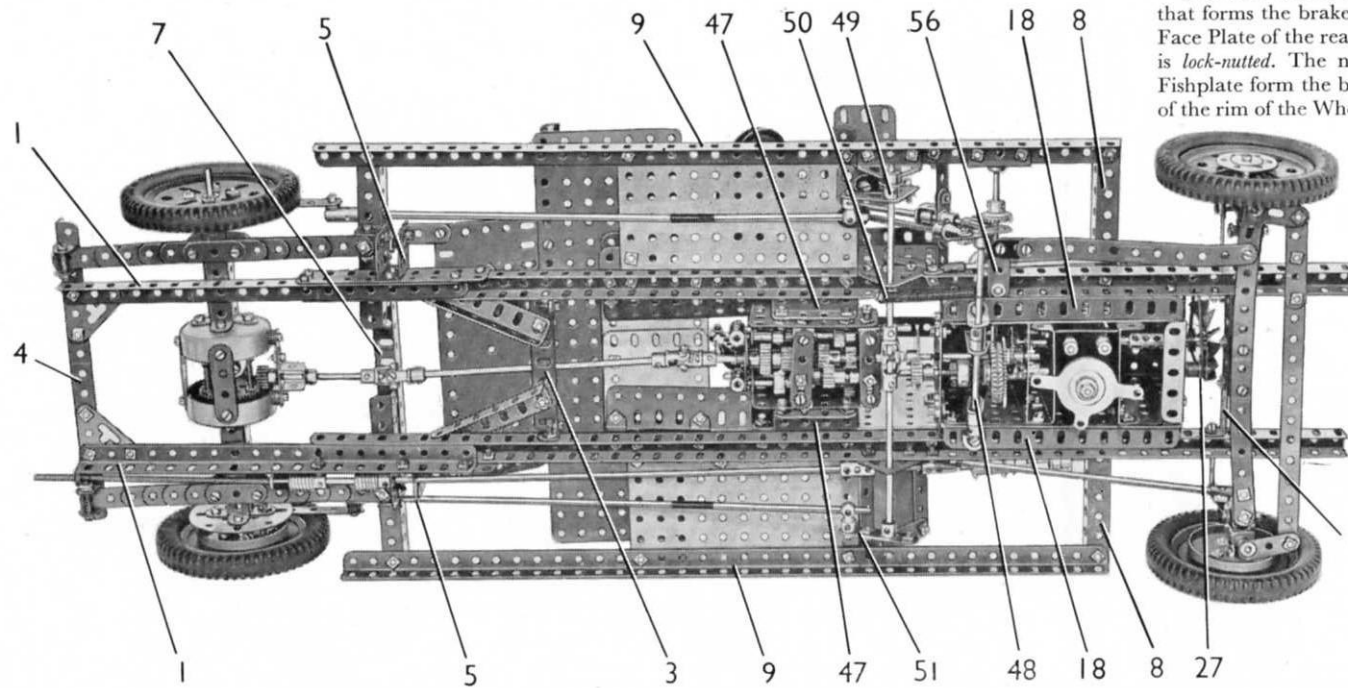
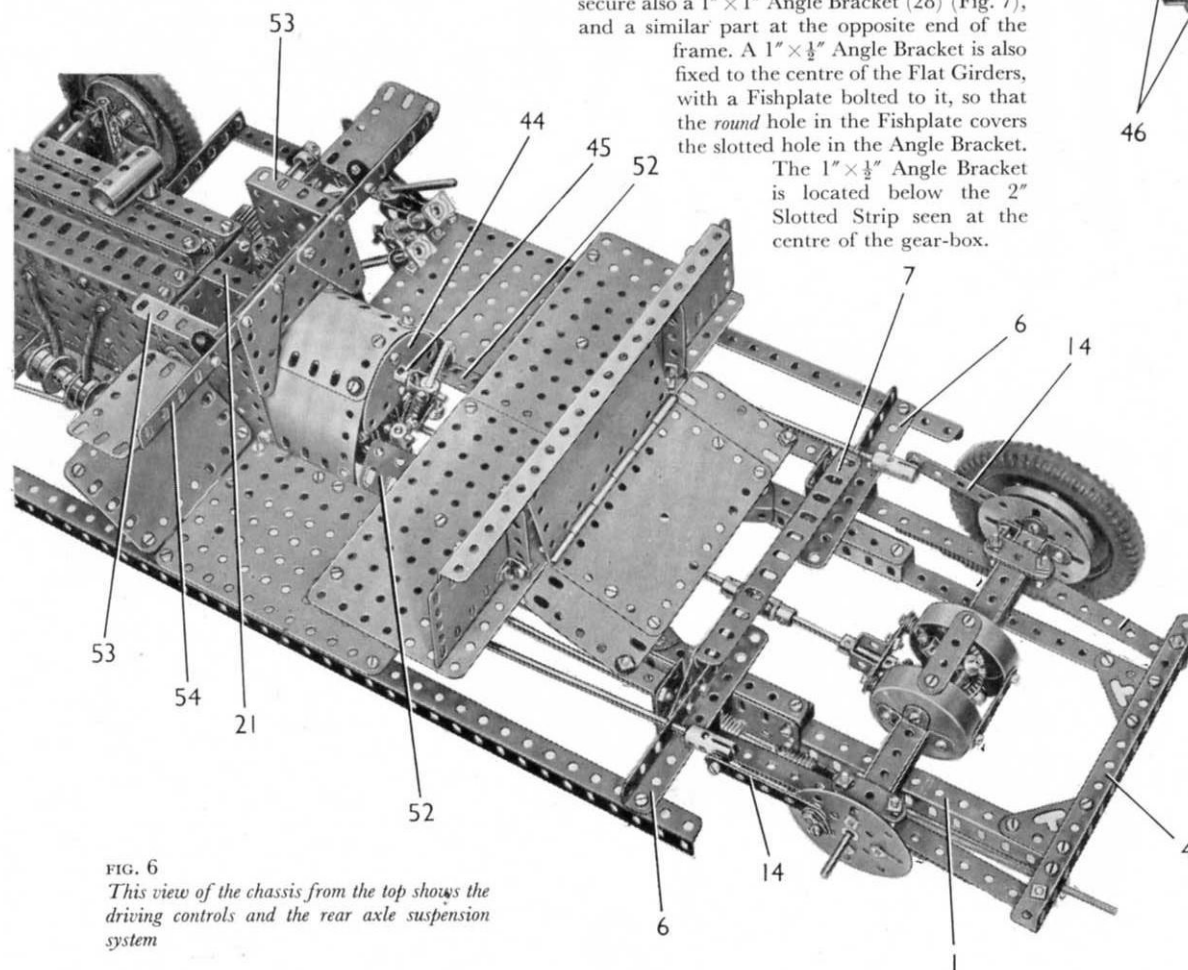

FIG. 2
FIG. 6
### Construction of the Model: Details of the Chassis (Figs. 2 and 4)
A Channel Bearing (5) is bolted to each side of the chassis, and to it is fixed a  $4\frac{1}{2}$ " Angle Girder (6) fitted with a  $1\frac{1}{2}$ " Corner Bracket. The Corner Brackets are connected by a  $5\frac{1}{2}$ " Angle Girder (7) (Fig. 6). A  $3\frac{1}{2}$ " Angle Girder (8) is fixed to each side of the chassis, and  $18\frac{1}{2}$ " Angle Girders (9) are bolted to the ends of the Girders (6) and (8). A  $5\frac{1}{2}$ "  $\times$   $3\frac{1}{2}$ " Flat Plate is bolted between the chassis member and the Girder (9) on each side (see Fig. 2).
The rear wheels are 3" Pulleys, to each of which a Wheel Flange that forms the brake drum is bolted. A Fishplate is *lock-nutted* to each Face Plate of the rear axle, and to the Fishplate a  $2\frac{1}{2}$ " Strip (14) (Fig. 6) is *lock-nutted*. The nuts on the bolt that connects the Strip and the Fishplate form the brake shoe, and can be pulled against the inner side of the rim of the Wheel Flange by means of the Strip (14).
Each of the rear springs is formed by a  $7\frac{1}{2}$ ", a  $5\frac{1}{2}$ ", a  $4\frac{1}{2}$ ", a  $3\frac{1}{2}$ ", a  $2\frac{1}{2}$ " and a  $1\frac{1}{2}$ " Strip connected by two  $1\frac{1}{8}$ " Bolts. The Bolts pass on each side of the axle casing, through three  $1\frac{1}{2}$ " Strips placed face to face. Nuts on the Bolts clamp the  $1\frac{1}{2}$ " Strips and the axle casing securely to the spring (see Fig. 6).
are bolted flanges upward, and to one of them a  $5\frac{1}{2}$ " Strip is attached by Angle Brackets. A  $4\frac{1}{2}$ "  $\times$   $\frac{1}{2}$ " Double Angle Strip (21) (Fig. 6) is fixed to the rear of the unit, and a  $2\frac{1}{2}$ "  $\times$   $1\frac{1}{2}$ " Flanged Plate (22) is bolted between the sides.
The sparking plugs are  $\frac{3}{8}$ " Bolts, that are connected to a Chimney Adaptor by four lengths of Spring Cord. The exhaust pipe consists of two Springs bolted to the housing and clamped at their lower ends between  $\frac{3}{4}$ " Flanged Wheels on a  $3\frac{1}{2}$ " Screwed Rod. One end of the Screwed Rod is fixed in one of the Girders (8) (Fig. 2), and to the other a Flexible Coupling Unit is attached by a Threaded Coupling. The Flexible Coupling Unit is joined by a Coupling to an  $11\frac{1}{2}$ " Rod that passes through one of the Channel Bearings (5). This Rod carries two Worms, in one of which is held an Adaptor for Screwed Rods that supports a 6" Screwed Rod. The rear end of the Screwed Rod is fixed in an Angle Bracket bolted to the Girder 4.
A  $1" \times 1"$  Angle Bracket is bolted to the top at the rear end of the gear-box frame, and a Threaded Pin is passed through this Angle Bracket and through a Semi-Circular Plate (44) (Fig. 6). A Swivel Bearing (45) is fixed on the Threaded Pin, and in it is held a  $2\frac{1}{2}"$  Rod that forms the gear lever. A Coupling, to which two Fishplates (46) are attached by bolts, is fixed to the lower end of the  $2\frac{1}{2}"$  Rod. The Fishplates are arranged one on each side of bolts screwed into the Couplings (43). The movement of each selector shaft is restrained by a  $\frac{3}{8}"$  Bolt held in the top of the gear-box frame by two nuts. The shank of this Bolt presses lightly against the selector shaft.
The gear-box is connected by  $\frac{3}{8}"$  Bolts to Girder Brackets (47) bolted to the chassis (Fig. 2). The sides of the gear-box are spaced from the Girder Brackets by a nut on each bolt. A 57-tooth Gear on the input shaft is driven by a  $\frac{1}{2}"$  Pinion on the Rod (25), and the drive to the rear axle is carried by a  $6\frac{1}{2}"$  Rod and two Universal Couplings.
#### Clutch and Brake Mechanisms (Figs. 2, 5 and 8)
The brake pedal is a Slide Piece on a  $2"$  Rod, which is mounted in an Obtuse Angle Bracket bolted to a  $1"$  Triangular Plate fixed to the  $5\frac{1}{2}" \times 3\frac{1}{2}"$  Flat Plate. Two Compression Springs are placed on the Rod between the Slide Piece and the Obtuse Angle Bracket. An End Bearing on the lower end of the  $2"$  Rod is lock-nutted to a Bell Crank (49) (Fig. 2) on a built-up axle. This axle consists of two  $4\frac{1}{2}"$  Rods, each of which carries a small Fork Piece, and the Fork Pieces are bolted together by their lugs. The axle is supported in Flat Trunnions bolted to the chassis, and in a  $1\frac{1}{2}"$  Strip fixed to a Trunnion attached to one of the Girders (9). The axle is held
in place by a Collar, and in addition to the Bell Crank (49) it carries half of a Dog Clutch (50) and a  $2"$  Strip (51) bolted to a Double Arm Crank. Handrail Couplings are pivoted on bolts passed through the Bell Crank and the Strip (51), and each Handrail Coupling is connected by a built-up rod to a Strip Coupling that pivots on a bolt in one of the Strips (14) (Fig. 6). The built-up rods are each made from a  $4"$  and an  $8"$  Rod joined by a Rod Connector. A Spring is attached by a bolt to the half of the Dog Clutch (50) and is looped over the clutch shaft (48).
#### Gear-Box Cover, Dashboard and Front Seat (Fig. 6)
A Hinged Flat Plate is bolted behind the front seat, and its horizontal half is extended on each side by a  $2\frac{1}{2}'' \times 1\frac{1}{2}''$  Flexible Plate. These plates are connected to the Channel Bearings (5) (Fig. 2) by  $1'' \times 1''$  Angle Brackets.
The steering column is a  $6\frac{1}{2}''$  Rod that is supported in an Angle Bracket bolted to Girder (54) (Fig. 6) and in a Double Bent Strip and a Double Arm Crank fixed to a  $3'' \times 1\frac{1}{2}''$  Double Angle Strip. The Double Angle Strip is bolted to one of the Flanged Plates (53) and to a Corner Gusset supported by a  $2''$  Angle Girder fixed to one of the Girders (9).